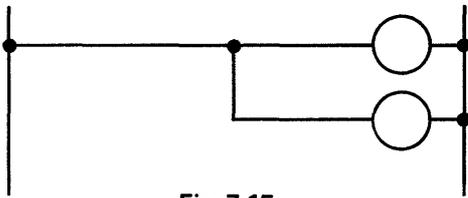
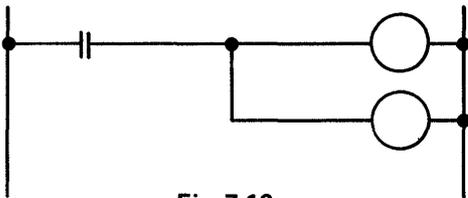
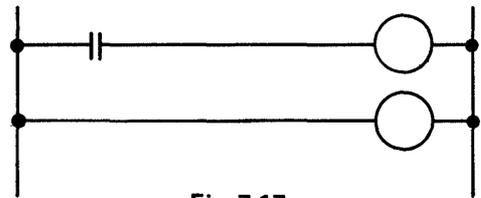

Fig. 7.15
Fig. 7.16
Fig. 7.17
(12) When the [CNV] key is pressed without providing a contact in front of coil as shown in Fig. 7.15, "ILLOGICAL DIAGRM" is displayed. When the contact is written as shown in Fig. 7.16 after the conversion, the circuit shown in Fig. 7.17 is displayed. If the [CNV] key is pressed in this state, "ILLOGICAL DIAGRM" is displayed again. Therefore, be sure to press the [CNV] key after correcting the circuit as shown in Fig. 7.16 again.